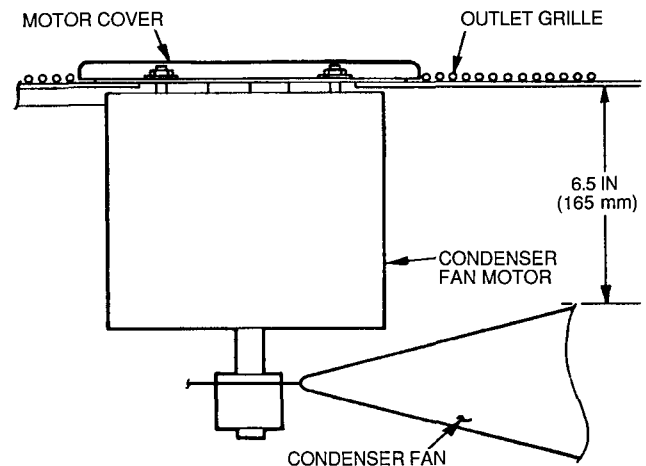

Fig. 2 – Condenser Fan Height Adjustment
12. Adjust fan height as shown in Fig. 2.